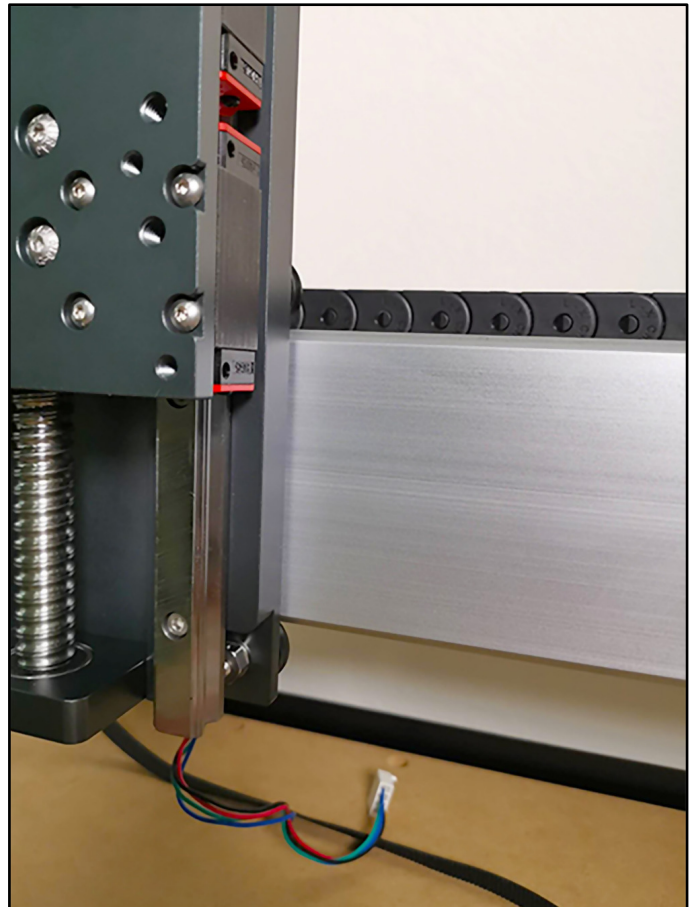

Figure 10
4. Fit the bottom v-wheels in the same manner. As you fit them, ensure the v-wheel grooves are on the rail. See **Figure 10**.